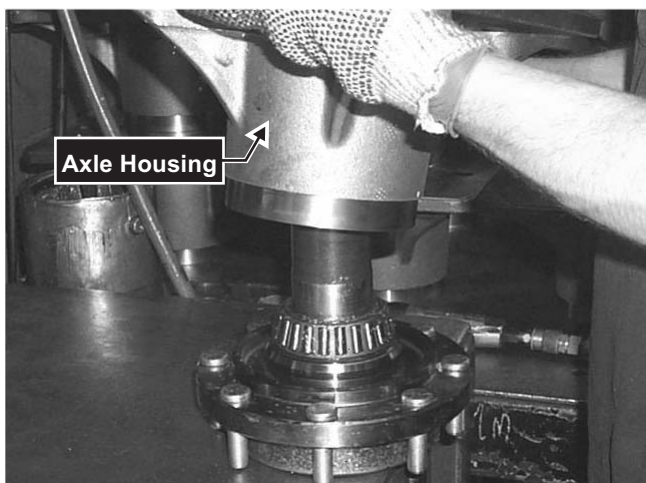

Fig. 5-17 Slide the axle housing over the axle shaft.
5. Insert axle shaft into axle housing. **Fig. 5-17**